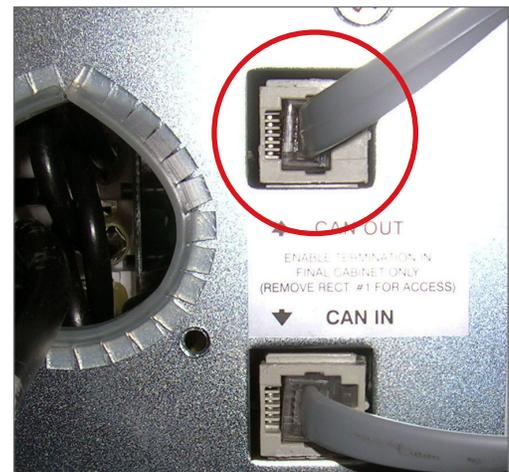

Figure 39 — CAN IN/CAN OUT Connection 4.0kW
2. Connect the inter-bay CAN bus cable, which ships with the expansion bay, to the CAN OUT connector of the top rectifier shelf of the expansion bay (Figure 39).